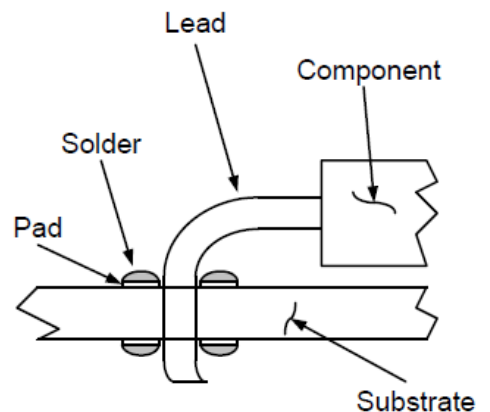

Fig. 8. Non-wetting Solder Joint
- *Non-wetting:* Solder may not adhere to the leads or terminals of a device if the plating thickness is too thin. This problem especially applies to axial-leaded devices since the solder must bridge across the through-hole from the pad to the lead (Figure 8).